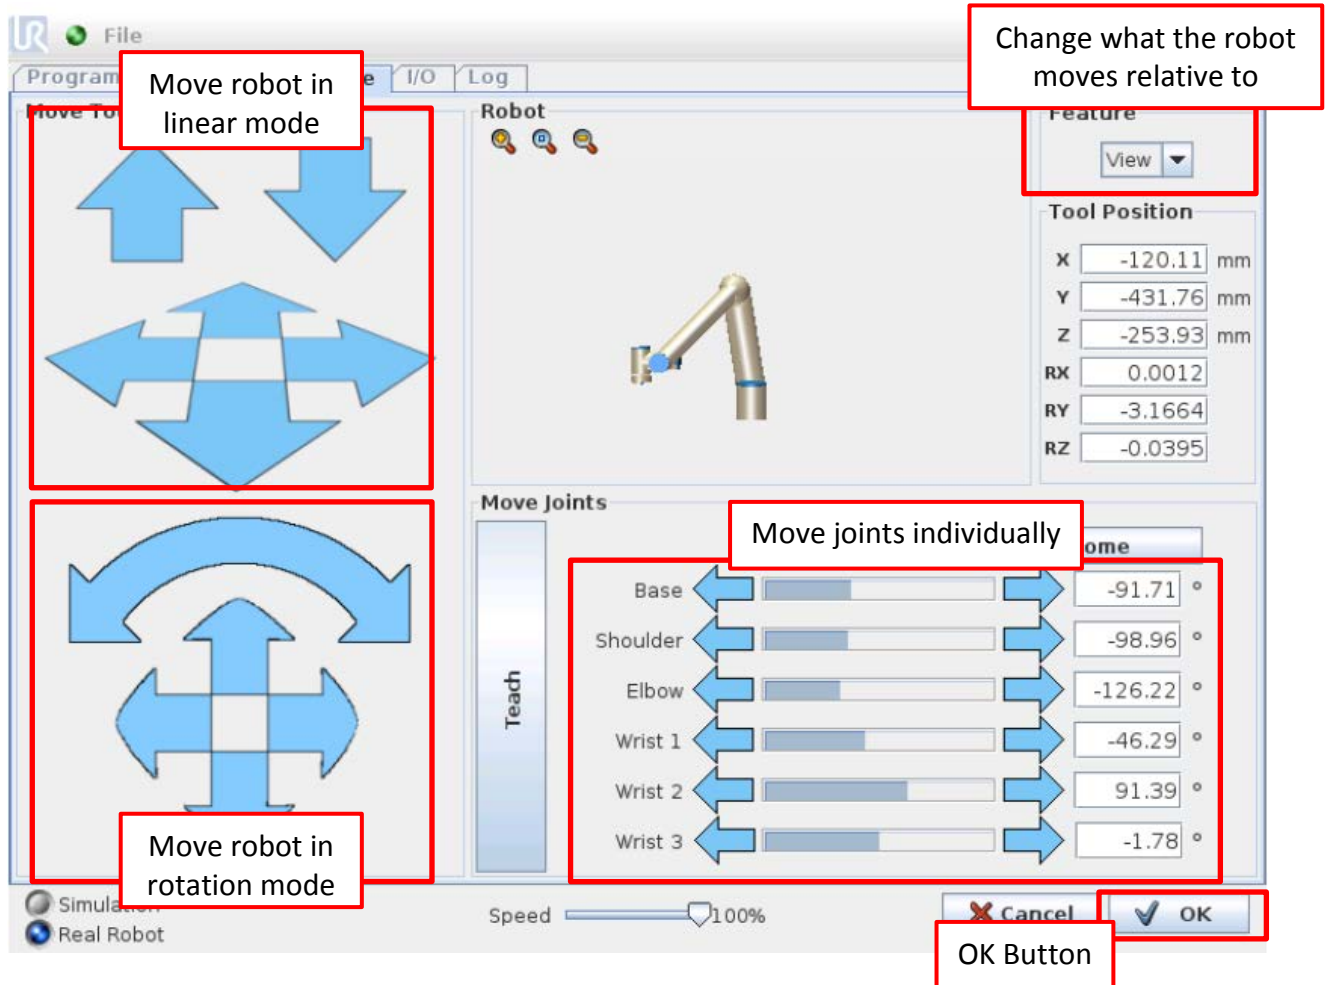

Figure 13 The Move tab
7. On this screen you can rename the waypoint and set the position of the waypoint. To set the position press the “Set this waypoint” button. The Move screen in Figure 13 will appear.
8. There are several ways of moving the robot (see Figure 13).
9. The top right box “Feature” (see Figure 13) has three options, “View”, “Base” and “Tool”. Selecting these will change how the left hand arrows affect the robot. For example when using “Tool” mode, the linear arrows will be relative to the direction of the tool tip, so pressing the up arrow will have the robot move along the axis of the tool. The viewpoint also changes how the robot displayed on the screen is shown, for instance pressing “Tool” will show the robot tool.
10. Move the robot into the first position. Once it is in the correct location press the “OK” button in the lower right hand corner (Figure 13). You have now recorded the first position, notice that the list of instructions on the left hand side now has all green arrows and circles.